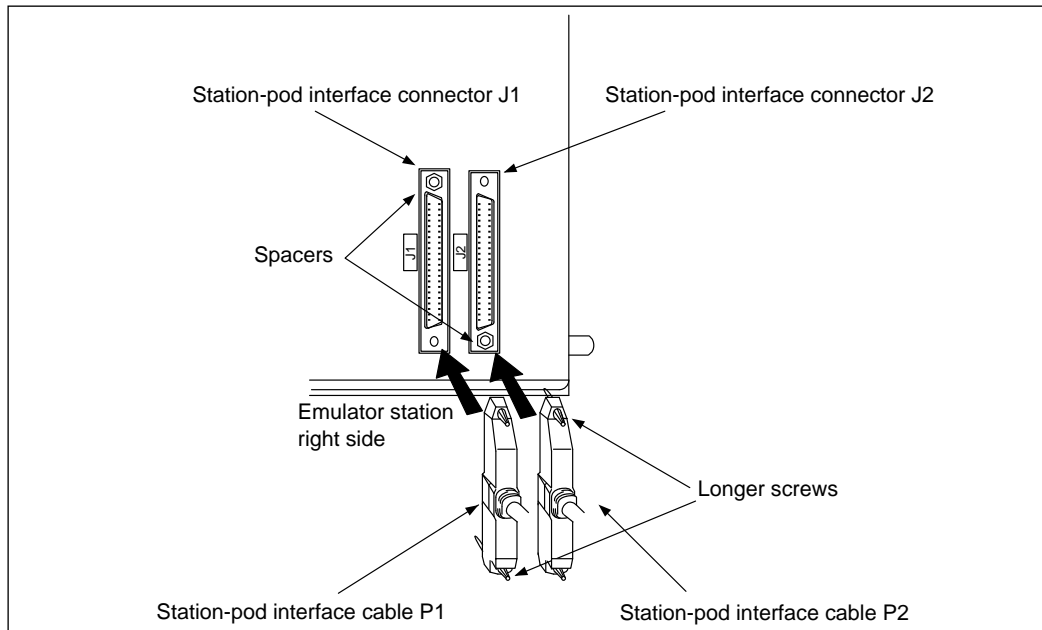

Figure 3-2 Connecting Station-Pod Interface Cables to Emulator Station
- (3) Connect station-pod interface cables P1 and P2 to station-pod interface connectors J1 and J2 on the right side of the emulator station, respectively. Insert the longer screw of each cable to the connector screw hole without a spacer, and the shorter screw to the hole with a spacer. Tighten the longer screw first until the shorter screw reaches the spacer, then alternately tighten the longer and shorter screws. Figure 3-2 shows how to connect the station-pod interface cables to the emulator station.